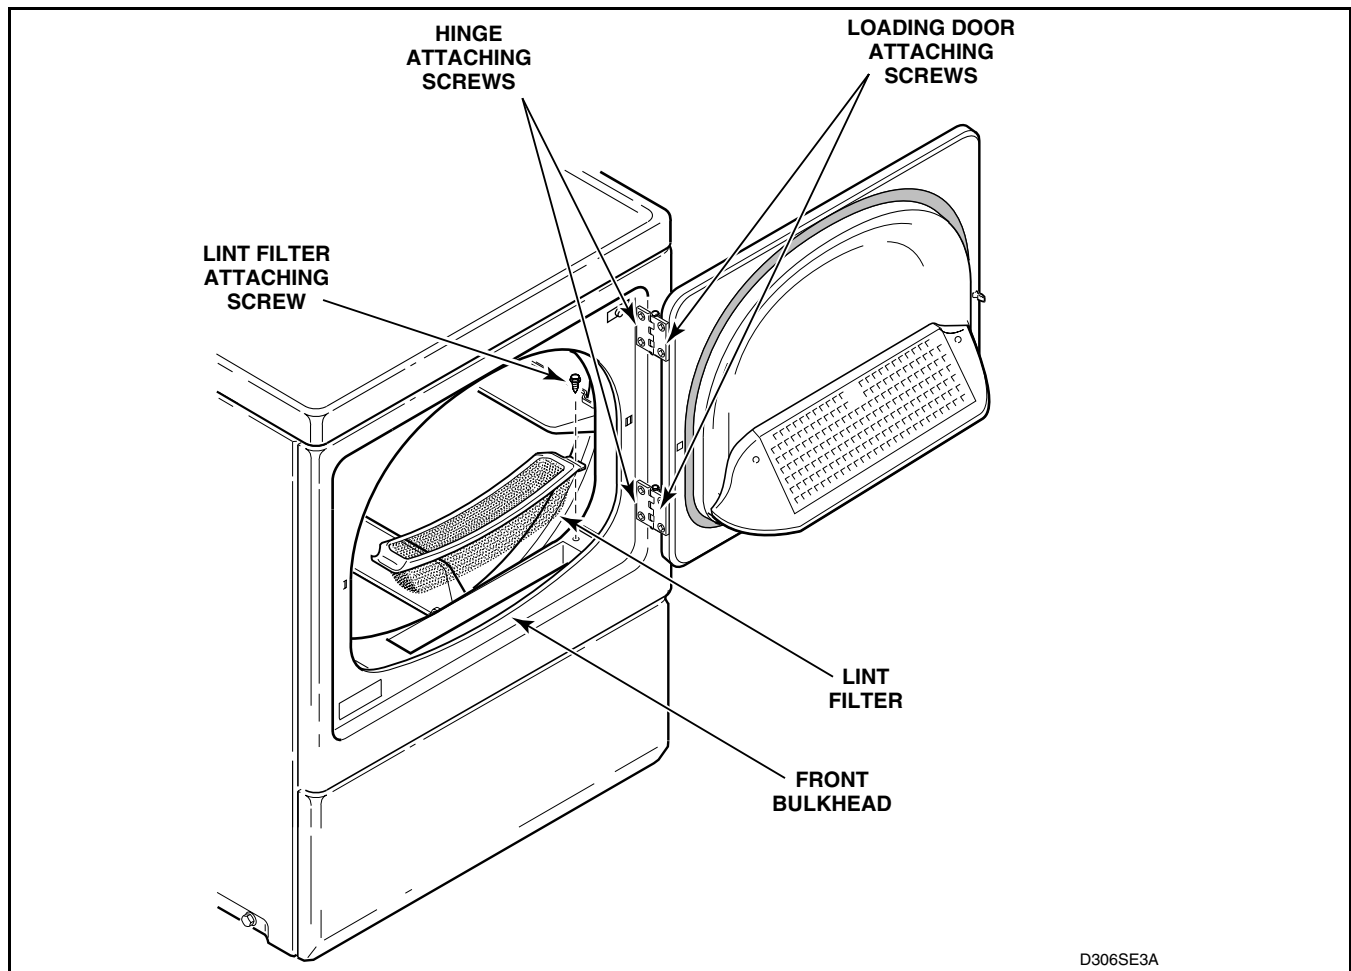

Figure 16
Refer to *Figure 16*
- b. Remove screws holding loading door to hinges. Refer to *Figure 16*.
- Remove four screws holding door assembly to hinges. Refer to *Figure 16*.